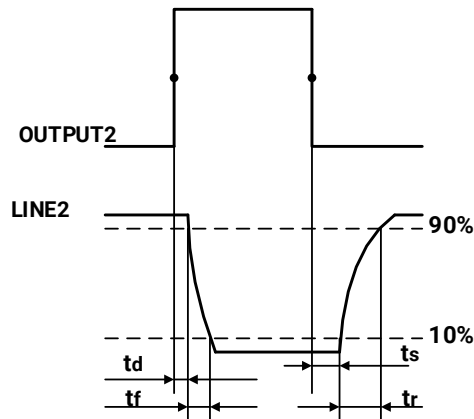

Figure 7-11 Parameter of Line2 output circuit
- Rising time delay = t_d+t_f : $<20\mu s$ ($0^{\circ}C\sim 45^{\circ}C$) (parameter description as shown in Figure 7-11)
- Falling time delay = t_s+t_r : $<20\mu s$ ($0^{\circ}C\sim 45^{\circ}C$) (parameter description as shown in Figure 7-11)